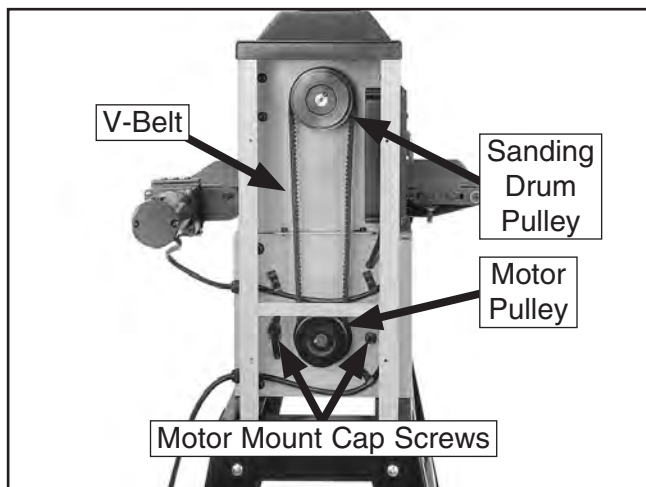

Figure 36. Belt drive system.
5. Loosen motor pulley set screws and sanding drum pulley set screws and align both pulleys (see **Figure 36**).